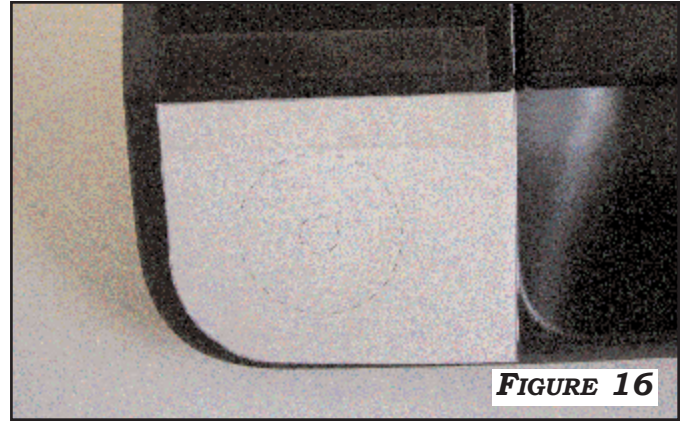

FIGURE 16
1. CUT OUT THE CAMERA HOLE DRILLING TEMPLATE ON PAGE 7 OF THIS MANUAL. AFFIX IT TO THE TAIL GATE LATCH AS SHOWN IN **FIGURE 16**. DRILL A 1/4" PILOT HOLE AND THEN ENLARGE IT TO 1-1/16". CLEAN AND DE-BURR THE HOLE.